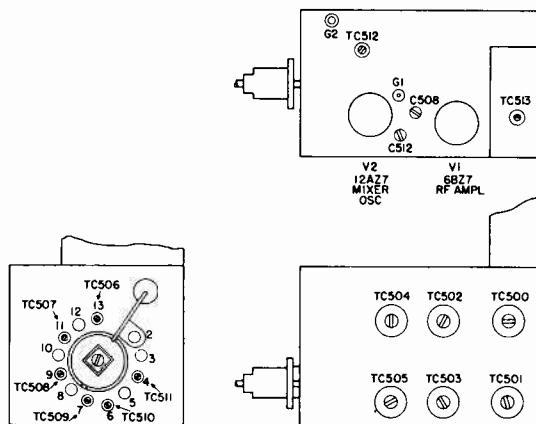
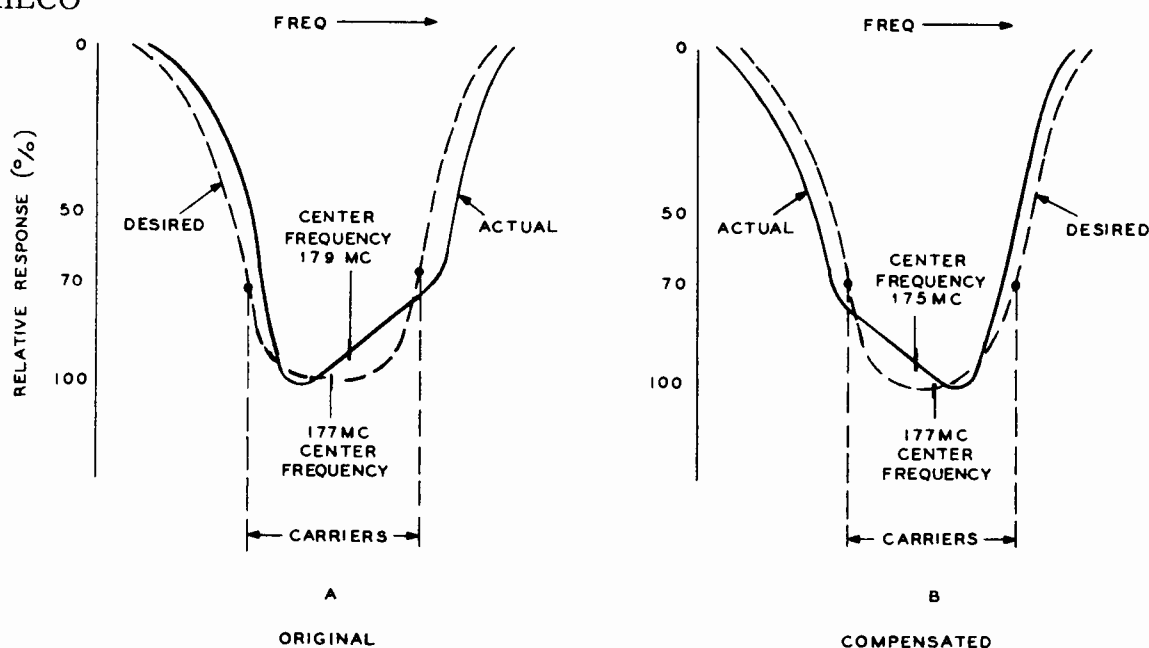

Figure 4. Television Tuner, Showing Locations of Adjustments
Figure 6. Television Tuner Response Curve, Showing Tracking Compensation
The FINE TUNING cam should be preset for all adjustments by placing the stop on the FINE TUNING cam between the Channel 7 and 8 holes on the front plate of the tuner. See figure 4.
4. Mechanically preset the fine-tuning cam as shown in figure 4.
6. Adjust the Channel 13 tuning core (see figure 4).
9. Feed in r-f (unmodulated) signals, at the oscillator frequencies for Channels 7, 6, and 4, consecutively (see NOTE below), and adjust the respective tuning cores (see figure 4).
1. Mechanically preset the FINE TUNING cam to the center of its range (see figure 4).
3. Adjust TC502 and TC504 (figure 4) for a symmetrical, approximately centered pass band. Set the marker generator to 213 mc. Detune TC504 counterclockwise until a single peak appears. Adjust TC502 until the peak falls on the 213-mc. marker. It may be necessary to increase the output of the generator during this adjustment. Then adjust TC500 for maximum curve height and symmetry of the single peak. The antenna circuit is now tuned for the high-frequency channels.
8. If the curve is not symmetrical, and appears unbalanced, as shown in figure 6, leave the generator and tuner set to Channel 7, and adjust C508 and C512 (see figure 4) to obtain a response curve which is the mirror image (tilt in the opposite direction) of the original. This is a form of overcompensation, to allow for the effect of Channel 13 adjustment on Channel 7. For example, if the Channel 7 response appears as in figure 6A, then the trimmer should be adjusted to obtain the response shown in figure 6B.